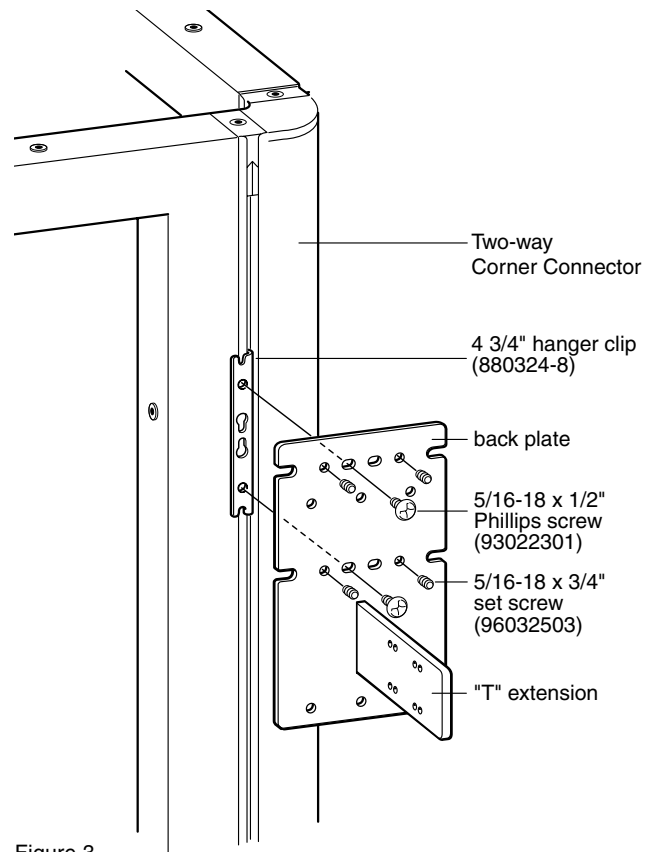

Figure 3
1. On the back of a Two-way Corner Connector, engage one 4 3/4" hanger clip into the slotted hanger frame of the connected frame. Make sure the clip is firmly seated in the hanger frame. (Figure 3)
2. Align the slots in the center of the back plate of the Power/Data Bracket with the weldnuts on the clip so that the bracket is centered over the joint of the frame and connector. The Power/Data Bracket should be oriented such that the "T" extension is lower than the hanger clips. Fasten bracket to clips with two 5/16-18 x 1/2" Phillips screws provided. Tighten screws securely. (Figure 3)
3. Install the nylon tipped 5/16-18x3/4" set screws into the four tapped holes in the back plate of the bracket. Adjust the set screws to keep bracket firmly seated against the back of the Two-way Corner Connector and the adjacent frame. (Figure 3)